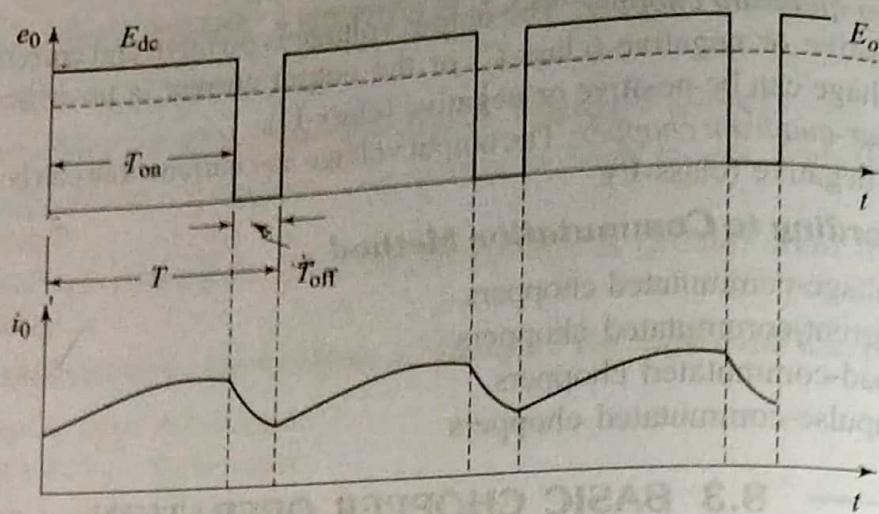

Fig. 8.5 Output voltage and current waveforms
A commutation circuitry is required for SCR based chopper circuit. Therefore, in general, gate-commutation devices based choppers have replaced the SCR-based choppers. However, for high voltage and high-current applications, SCR based choppers are used. The variations in on- and off periods of the switch provides an output voltage with an adjustable average value. The power-diode (D_F) operates in freewheeling mode to provide a path to load-current when switch (S) is OFF. The smoothing inductor filters out the ripples in the load current. Switch S is kept conducting for period T_{on} and is blocked for period T_{off} . The chopped load voltage waveform is shown in Fig. 8.5.
From Fig. 8.5, the average load-voltage E_0 is given by